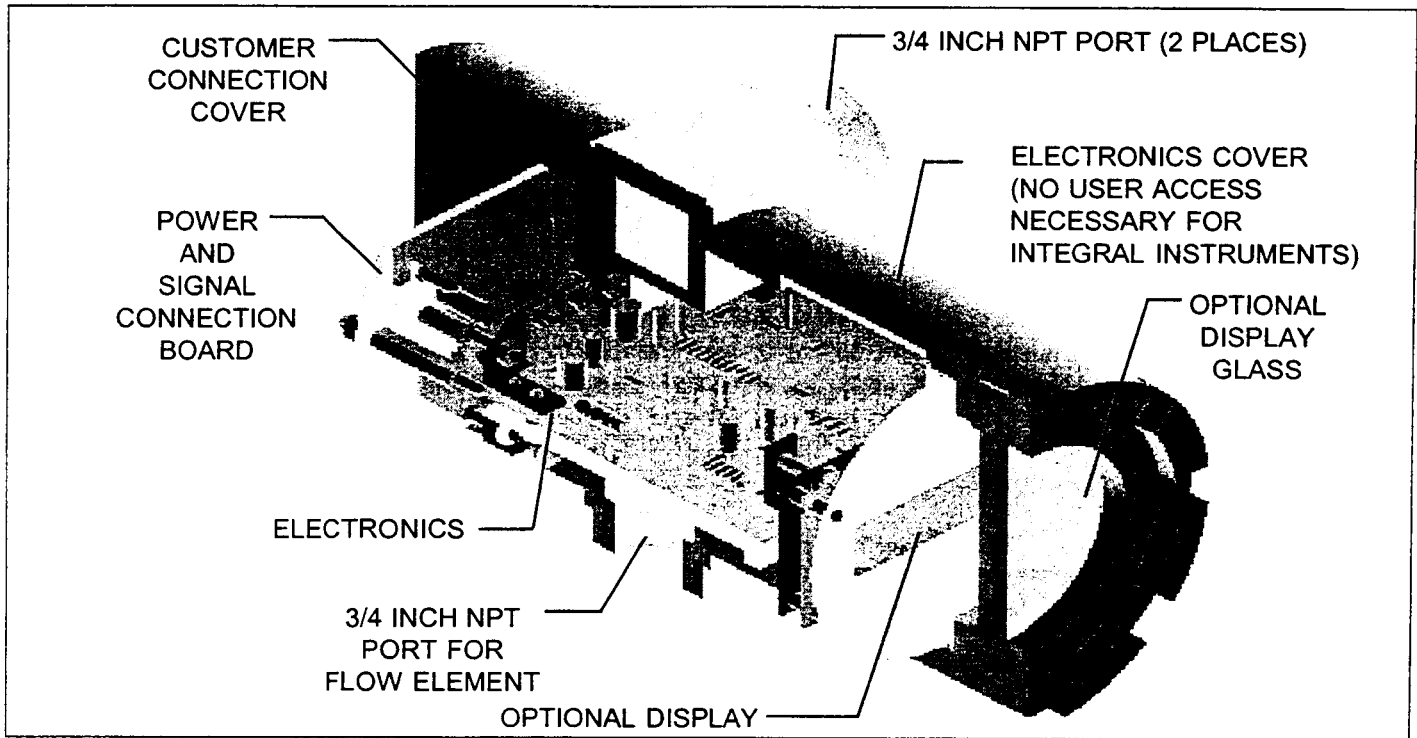
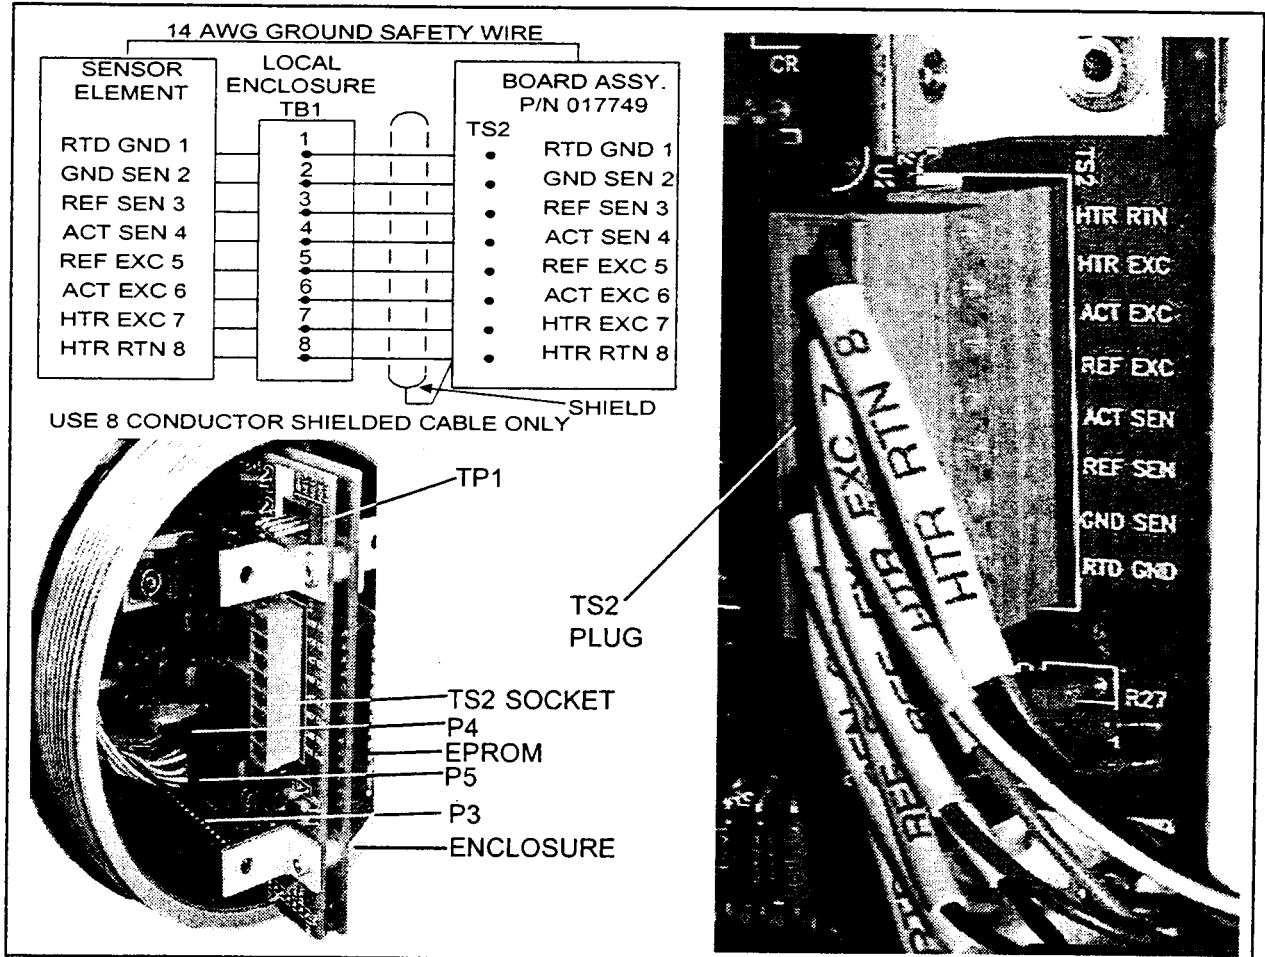
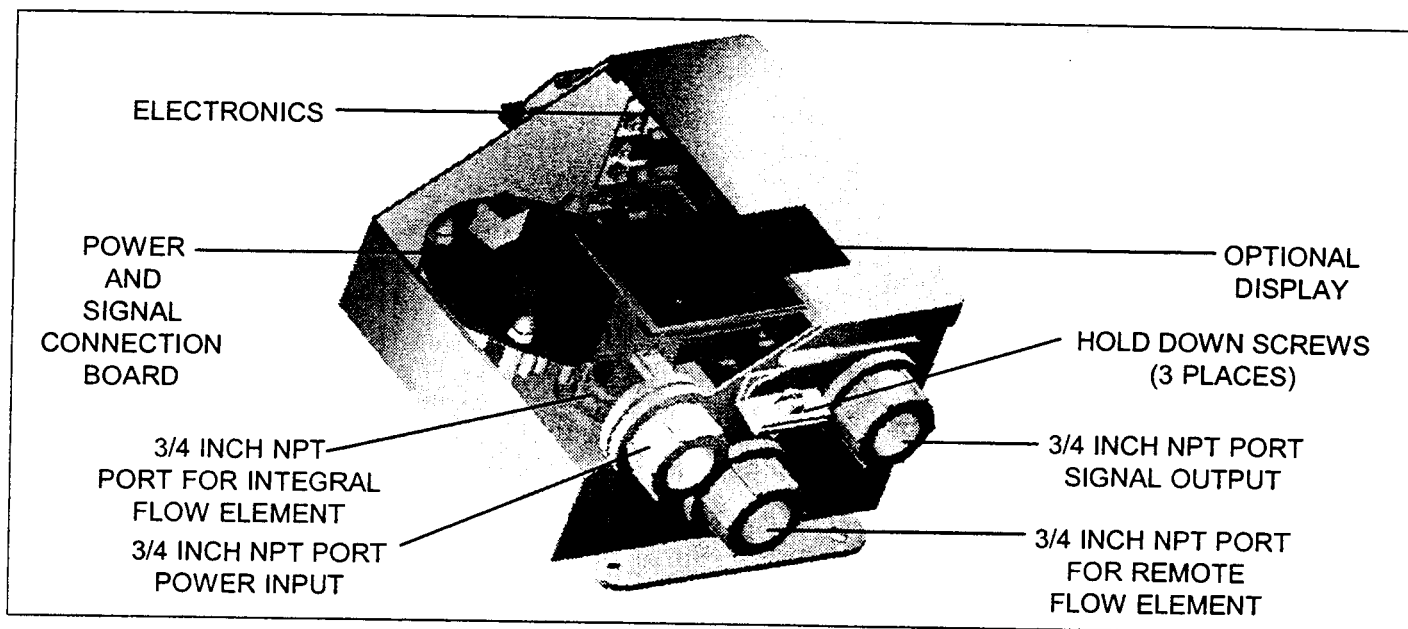

Figure 2-3. Circuit Board Placement
Figure 2-5. Remote Wiring Diagram
Figure 2-6. Optional Carbon Steel Enclosure
1. To wire the instrument remove the customer connection cover from the instrument by loosening the Allen head screw at the base of the cover. Unscrew the cover shown in Figure 2-3.
- For remote instruments only: The flow element wires should be routed through the 3/4 inch NPT port for the flow element as shown in Figure 2-3. Connect the flow element wires to TS2 on the electronics assembly according to Figure 2-5. Connect the cable shield to HTR RTN. Leave the other end of the shield floating. A 14 AWG ground wire should also be routed between the enclosures (wire terminals are supplied in the kit).
1. To wire the instrument loosen 3 cover hold down screws and open the cover. See Figure 2-6.
8. For remote instruments only, (the flow element is in a separate enclosure from the electronics): The flow element wires should be routed through the 3/4 inch NPT port for the flow element as shown in Figure 2-6. Connect the flow element wires to TS2 on the electronics assembly according to Figure 2-5. Connect the cable shield to HTR RTN. Leave the other end of the shield floating.
Note: Connecting the shield in any other way will decrease the accuracy of the instrument. See Figure 2-5 for the wiring diagram.